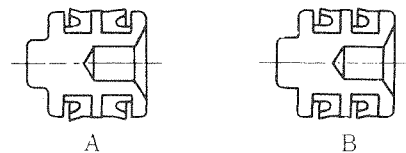

Fig. 7
Dip the piston cups (5) in clean oil to provide initial lubrication. Insert the cups in the piston (6) following the direction given in Fig. 7. Use the tools "Piston Cup Installer" (910-20000 and 910-20010) to install. If these tools are not immediately available, expand the cups by fingers.
\* (1) When not equipped with the outlet valve in the cylinder, install the cups in the same direction. (Fig. 7)
When equipped with the outlet valve, install the cups in the reverse direction to each other as per the instruction given in Fig. 7.